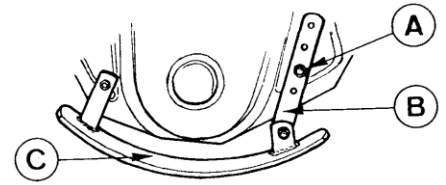

Fig. 44
For model fitted with side mounted depth control skids: **Fig. 44** illustrates the attachment of the left hand skid. Slacken nut (A) on the adjusting bar (B). Position the skid (C) to the required depth of work and re-tighten the nut.